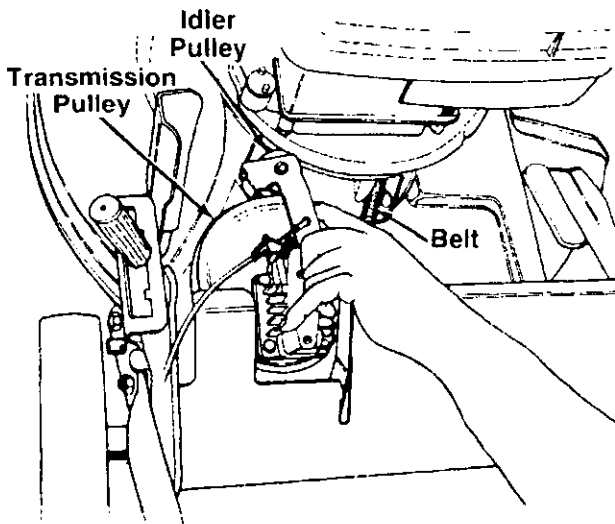

FIGURE 25.
10. Push the idler to the left and remove the belt from the transmission pulley. See figure 25.